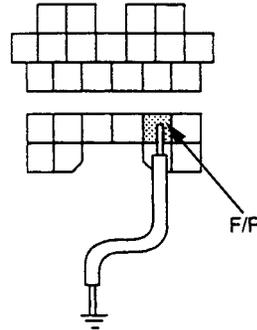

Figure MA014-3
3. Use a fused jumper to ground the fuel pump test terminal in the underhood connector (Figure MA014-3). Switch the ignition on and note the KOEO reading.